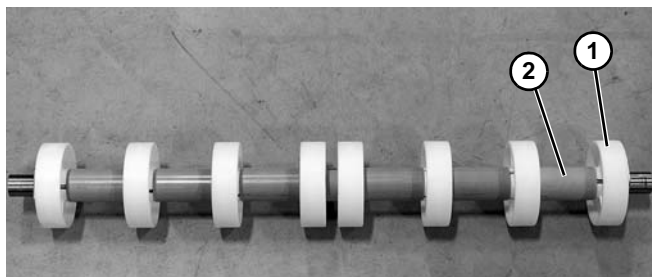

Figure 119
7. Remove pucks (**Figure 119, item 1**) and spacers (**Figure 119, item 2**) from the shaft. Repeat as needed.